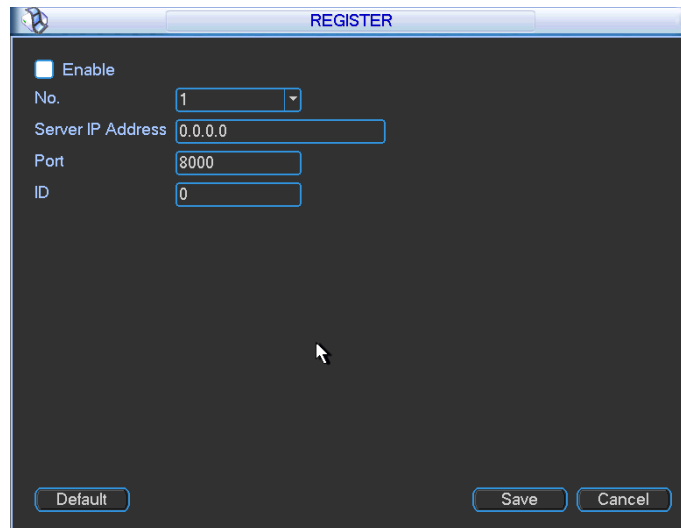

Figure 6-51
1) The setup interface is shown as in Figure 6-51.
3) Now you can add device. Please do not input default port number such as the TCP port in the mapping port number. The device ID here shall be the same with the ID you input in Figure 6-51. Click Add button to complete the setup.